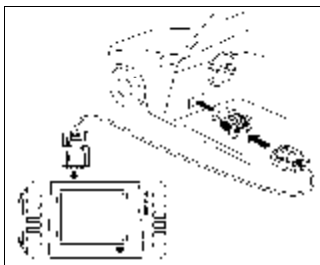

Fig.3.5
1. Choose OBD II adaptor and connect the main test cable as shown in Fig.3.5.